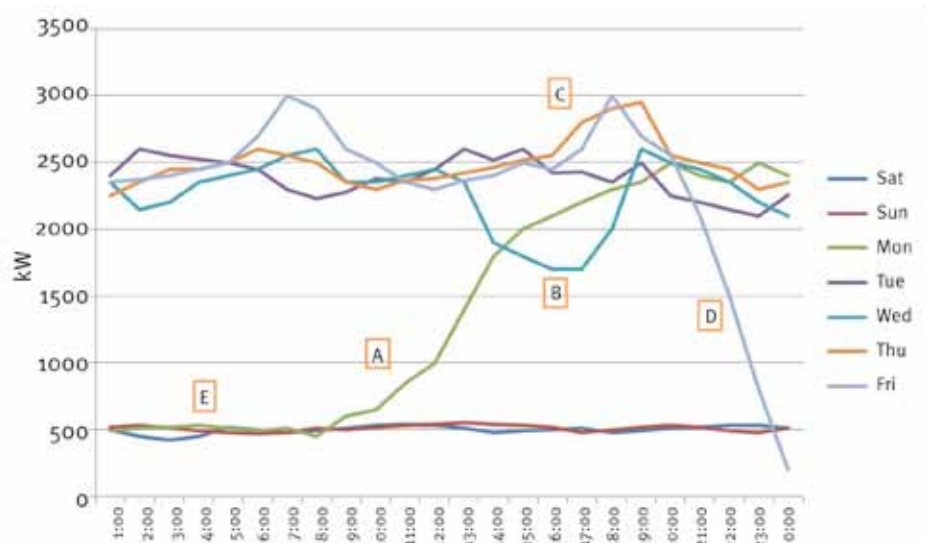
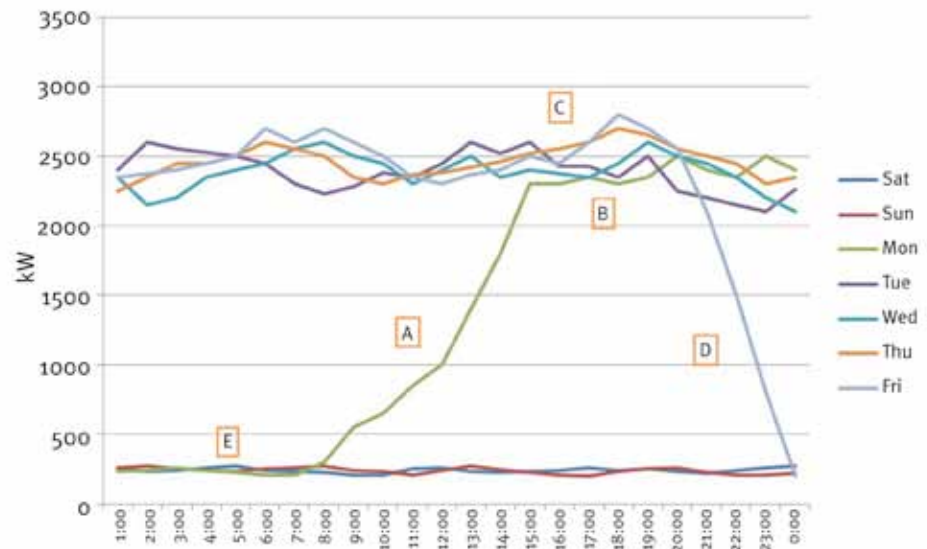

Figure 1: Load profile 'before' electricity efficiencies are implemented
Figure 2: Load profile 'after' electricity efficiencies are implemented
Figures 1 and 2 show the load profiles of a factory that commences operation on Monday and shuts down on Friday for the weekend.
Figure 1 shows the factory's load profile before electricity efficiency opportunities are implemented. Figure 2 shows the profile after the opportunities are implemented. The letters on the profiles indicate startup (A), shutdown (D), base load (E), peak demand (C) and an operational delay caused by a power brownout (B). Base load consumption, peak demand and power brownouts are explained in more detail in this section.
In Figure 2, a leaking compressor has been repaired. This has reduced the base load (E), the peak demand has been smoothed through better production scheduling (C) and the cause of intermittent brownouts has been identified, thus avoiding further production delays (B).
Base load consumption is the amount of energy consumed independent of production. See 'E' in Figures 1 and 2.
A power spike or surge generally originates from the external electricity supply due to an event such as a lightning strike (see 'B' in Figures 1 and 2). This can cause damage to equipment due to the sudden increase of voltage. Similarly, switching large electrical loads on or off can also cause surges. Surge protection equipment can be installed to protect equipment susceptible to damage from surges or spikes. It can be installed on plug-in equipment, at the power point or in the switchbox.